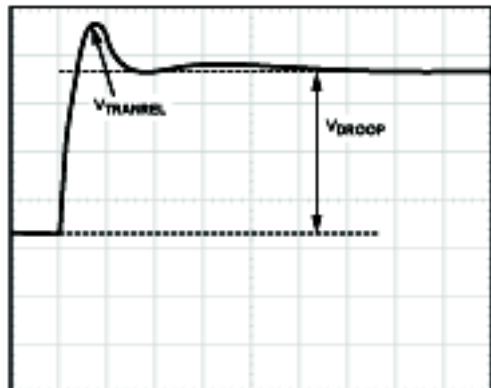

Figure 29. Transient Setting Waveform, Load Release
3. For load release (see Figure 29), if $V_{TRANREL}$ is larger than the value specified by $VR11$, a greater percentage of output capacitance is needed. Either increase the capacitance directly or decrease the inductor values. (If inductors are changed, however, it will be necessary to redesign the circuit using the information from the spreadsheet and to repeat all tuning guide procedures).